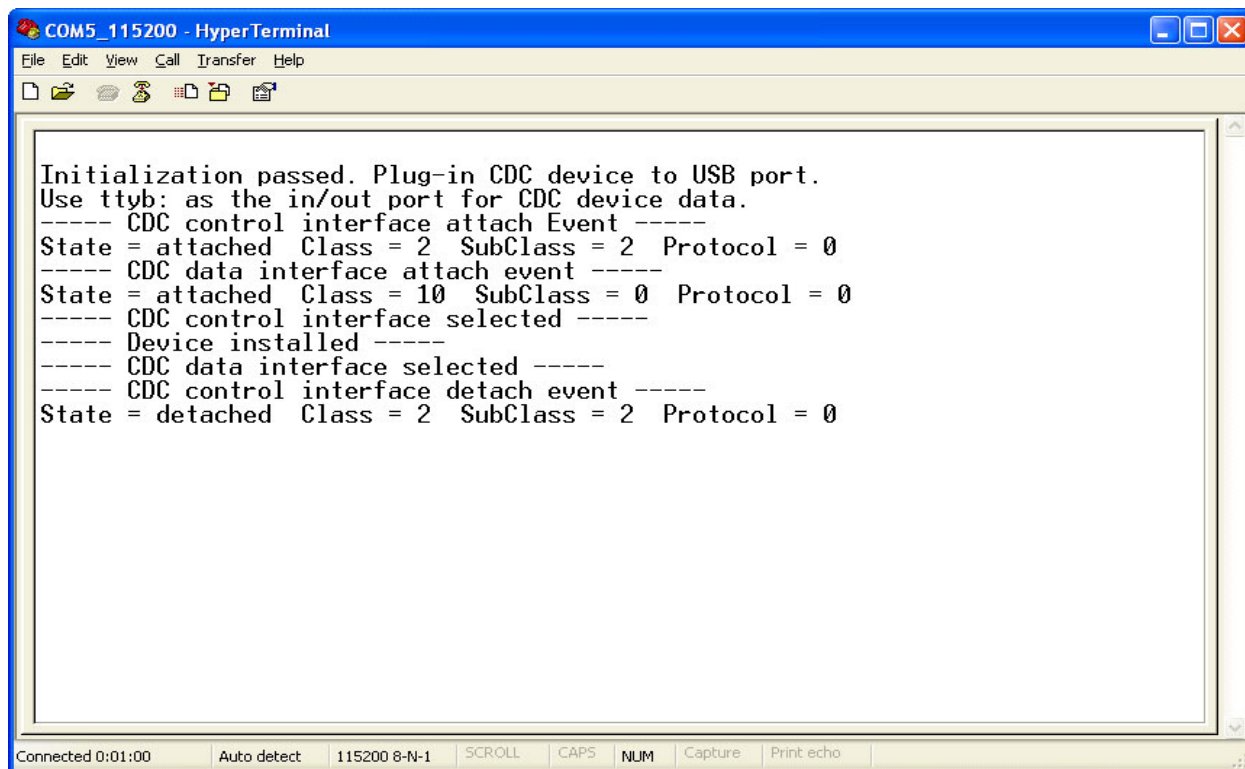

Figure C-5. CDC device detached
6. Unplug the CDC device. The HyperTerminal is as shown in Figure C-5.